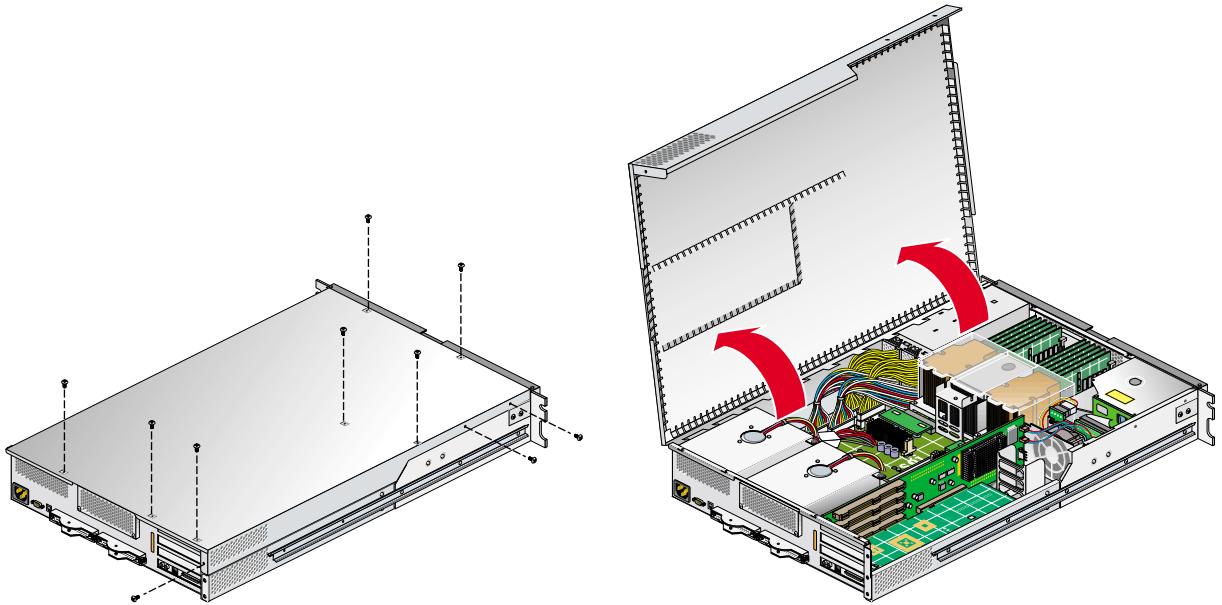

Figure 4-32 Opening the Module to Remove a DIMM
5. To access the DIMMs, remove the ten Phillips screws shown in Figure 4-32 and open the hinged cover.